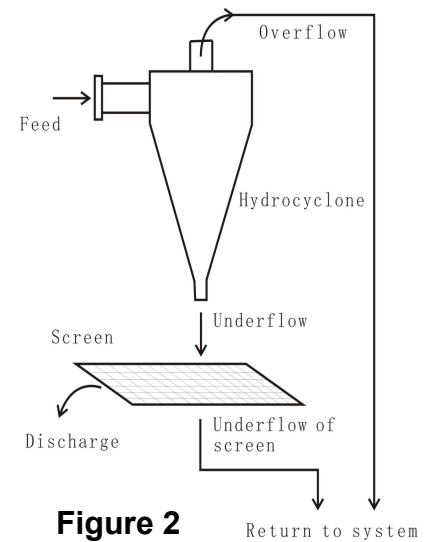

Figure 2
5.3. Working principle of silt separator refer to figure 2.